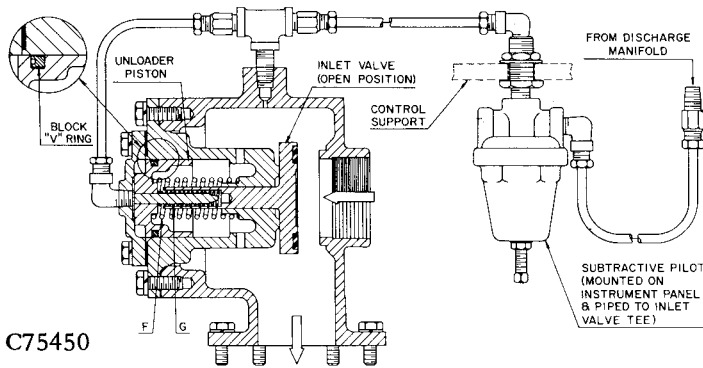

FIGURE 6a-4. — INLET VALVE FOR
**Inlet Valve** (Figures 6a-4 & 6b-4) — The inlet valve is a piston-actuated device which controls the compressor inlet and operates on air pressure from the subtractive pilot. The valve is closed when full pressure is on the system and changes degree of opening in direct response to system pressure changes.